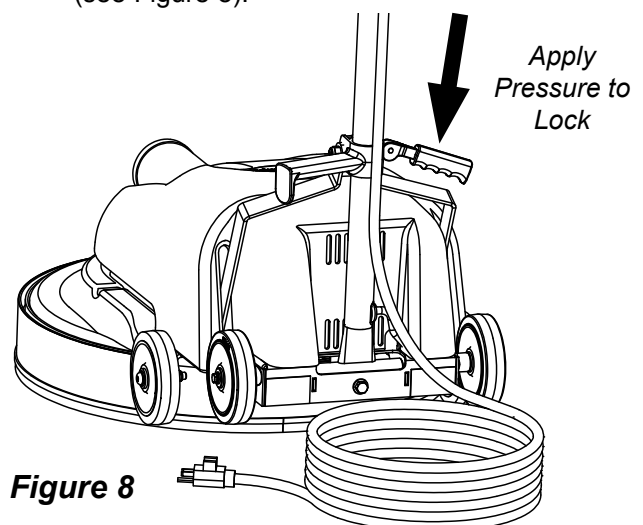

Figure 8
2. Lock the handle in the best position for operation. (see Figure 8).